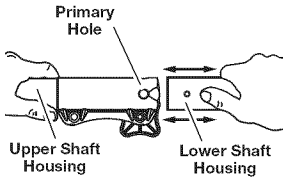

Fig. 5
3. While firmly holding the upper shaft housing, pull the lower shaft housing straight out of the Convertible™ coupler (Fig. 5).
2. While firmly holding the add-on, push it straight into the Convertible™ coupler (Fig. 5).